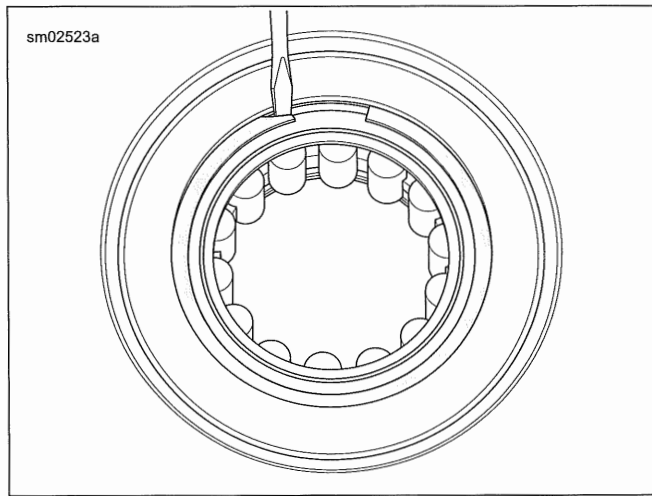

Figure 4-68. Remove Retaining Ring
- a. See Figure 4-68. Remove bearing retaining ring.